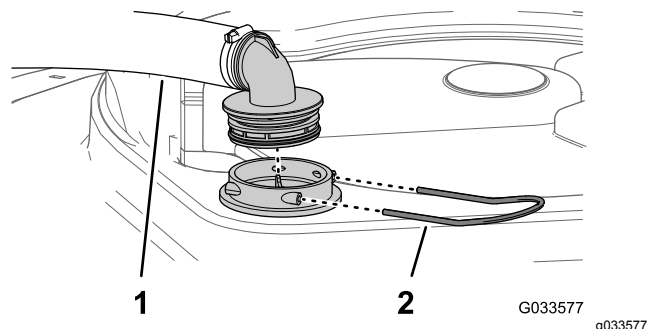

Figure 46
2. At the top of the sprayer tank, remove the retainer that secures the hose fitting attached to the large hose from the filter housing (Figure 46).
3. Remove the hose and hose fitting from the filter housing (Figure 46).